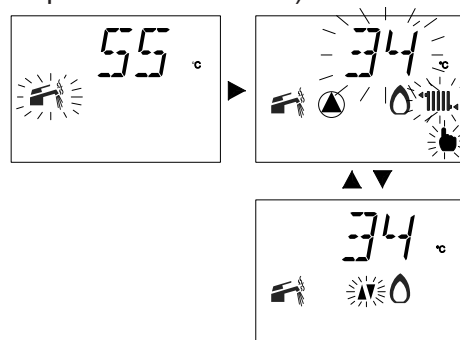

Figure 15.18
- The LCD display signals the variation with the symbols shown in Figure 15.18 turning on alternately. (Example: heating thermal power at maximum).